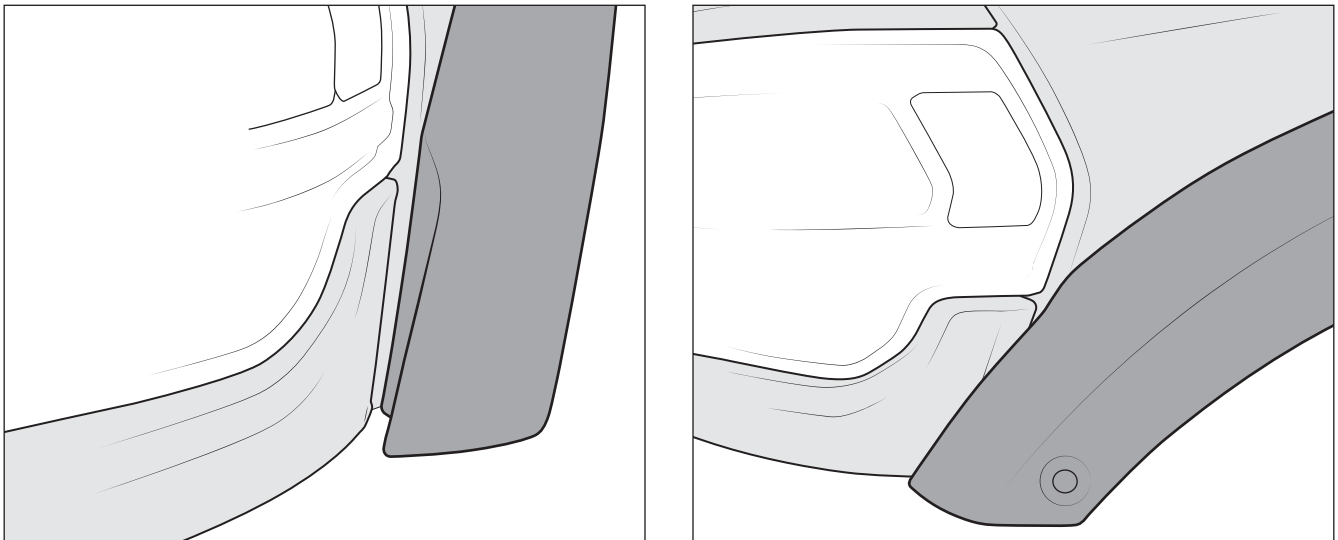

Figure 12
- D. Align the front of the flare with the headlight opening (fig. 12).